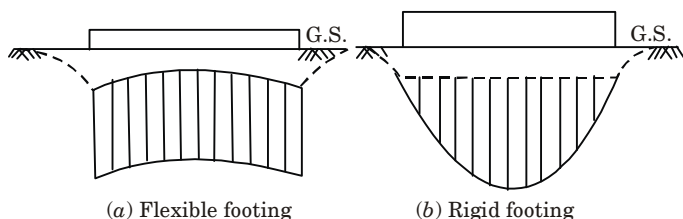

Fig. 3.17.2. Contact pressure on sand.
2. Contact Pressure on Saturated Clay For Rigid Footing [Fig. 3.17.2(b)] :
- Fig. 3.17.2 shows the qualitative contact pressure distribution under flexible and rigid footing resting on a sandy soil and subjected to a uniformly distributed load q .
4. Contact Pressure on Sand For Rigid Footing [Fig. 3.17.2(b)] :